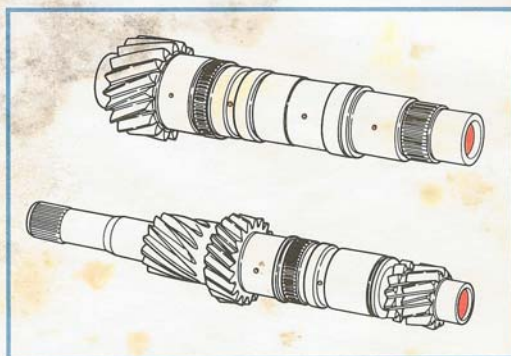

Figure 1-7, Shaft Passages.
- Holes intersecting these rifle-drilled passages allow for lubrication of all speed gears and synchronizer parts by centrifugal force (Figure 1-7).